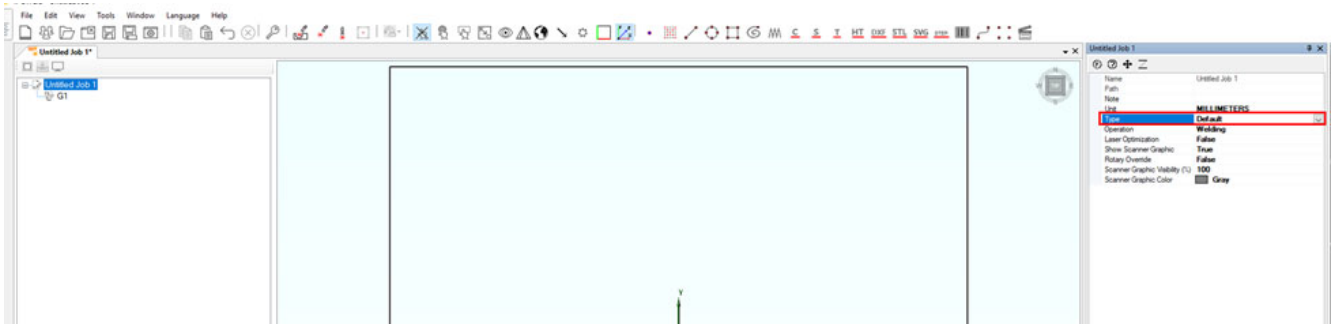

Figure 317: Creating a Default Type Job
1. Create an IPGScan job of "Default" Type. See Figure 317 (below).